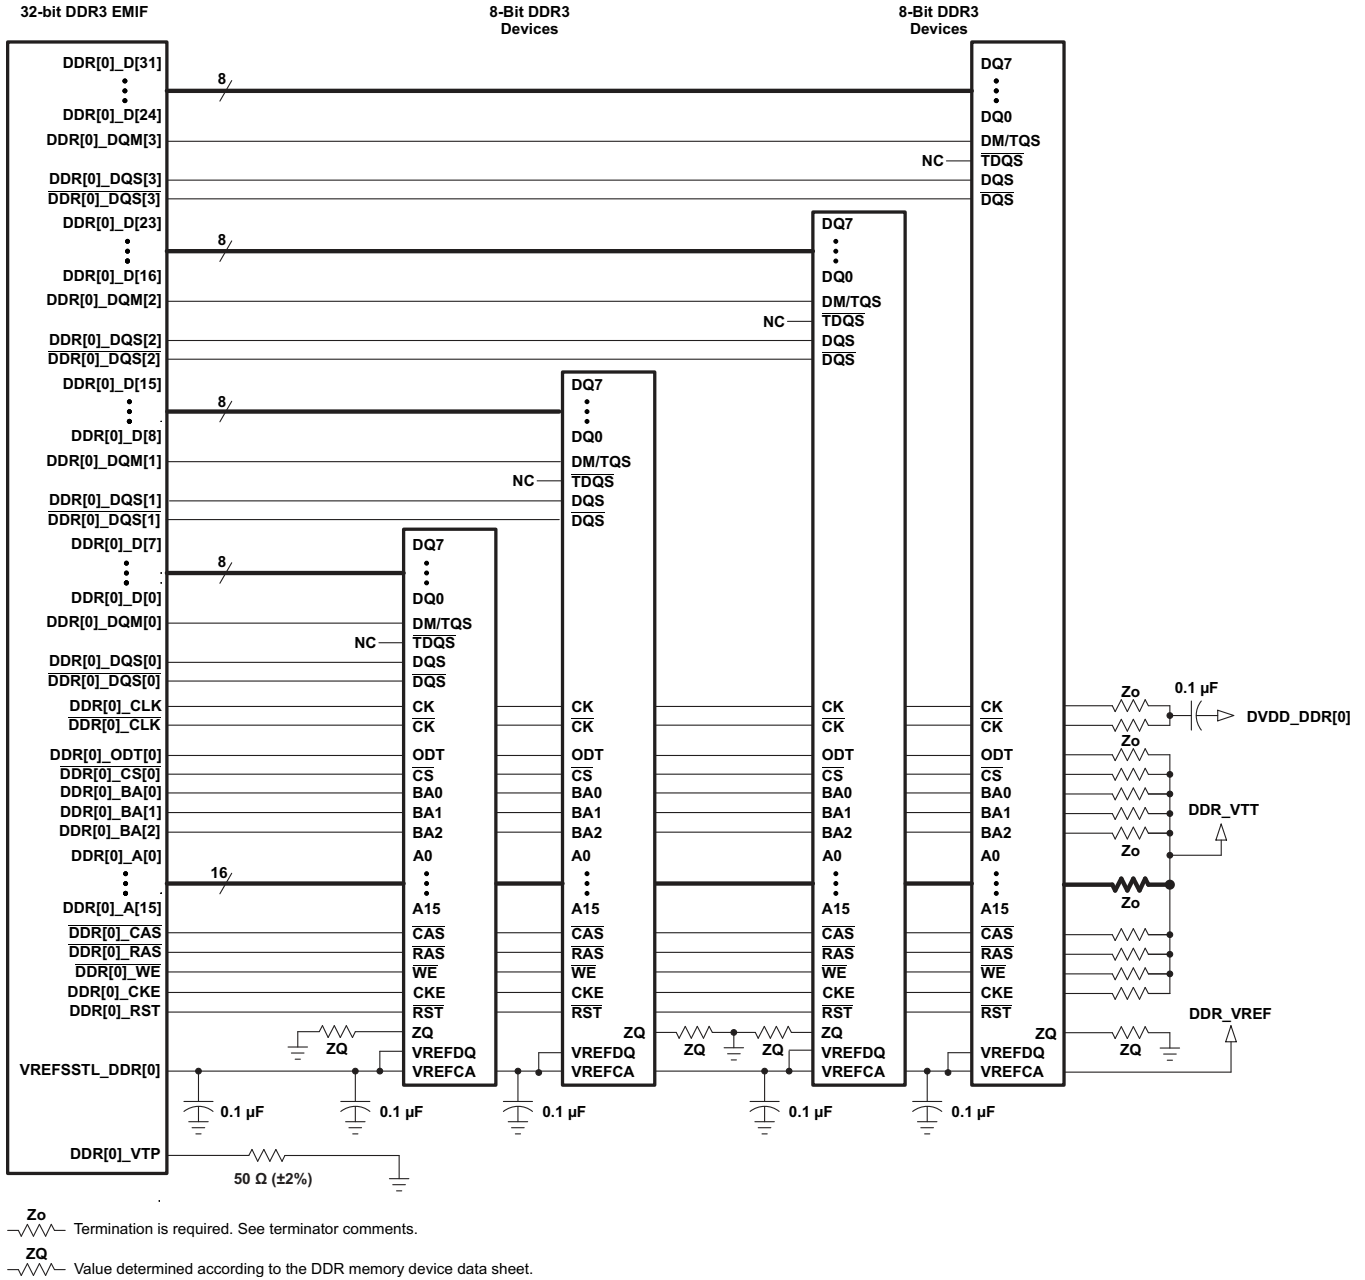

Figure 8-58. 32-Bit, One-Bank DDR3 Interface Schematic Using Four 8-Bit DDR3 Devices
The DDR3 interface schematic varies, depending upon the width of the DDR3 devices used and the width of the bus used (16 or 32 bits). General connectivity is straightforward and very similar. 16-bit DDR devices look like two 8-bit devices. Figure 8-57 and Figure 8-58 show the schematic connections for 32-bit interfaces using x16 devices.
Note that the 16-bit wide interface schematic is practically identical to the 32-bit interface (see Figure 8-57 and Figure 8-58); only the high-word DDR memories are removed and the unused DQS inputs are tied off. The processor `DDR[0]_DQS[2]` and `DDR[0]_DQS[3]` pins should be pulled to the DDR supply via 1-k Ω resistors. Similarly, the `DDR[0]_DQS[2]` and `DDR[0]_DQS[3]` pins should be pulled to ground via 1-k Ω resistors.
(1) DDR3 speed grade depends on desired clock rate. Data rate is 2x the clock rate. For DDR3-800, the clock rate is 400 MHz.
(2) DDR3 devices with higher speed grades are supported; however, max clock rate will still be limited to 533 MHz as stated in Table 8-61 *Switching Characteristics Over Recommended Operating Conditions for DDR3 Memory Controller*.
(3) For valid DDR3 device configurations and device counts, see Section 8.14.3.3, Figure 8-57, and Figure 8-58.